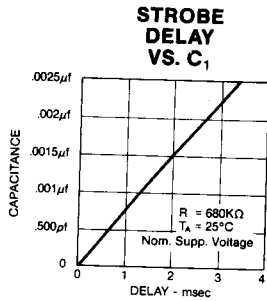

Fig. 5
* R1 (680K Ω), C1 (.001 μ F) provide approx. 1.5 ms delay (see figure 5)
** R2 (100K Ω), C2 (50pF) provide 50KHz clock frequency (see figure 5)